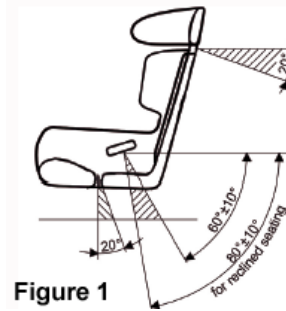

Figure 1
All harness belts must be installed based on the instructions provided by the harness belt manufacturer. Figure 1 details the recommended installation angles of anchor point based on the latest testing completed by following types of harnessbelts are approved. Both CAM lock, locking systems are allowed.
- A. The lap belts shall be mounted rearward of the pelvis, between two lines drawn at 60-degrees, and 80-degrees, below the horizontal (see Figure 1).
- C. The shoulder harness must be mounted at an angle of 0-degrees to -20-degrees from the horizontal plane measured from the top of the shoulder or the top of the HANS (see Figure 1). In no case shall the shoulder harness be mounted above the horizontal at shoulder height.